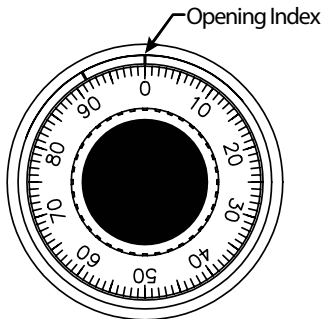

Figure 1.
- 1. Always use the line at the 12 o'clock position when dialing your combination. This line is known as the opening index. (See Figure 1. on page 14)*